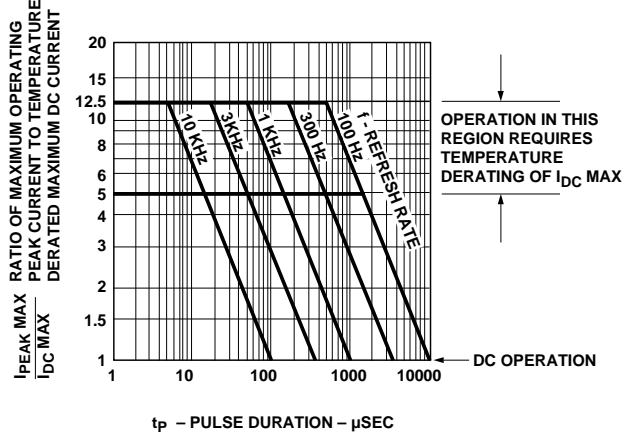

Figure 1. Maximum Tolerable Peak Current vs. Pulse Duration - Red.
1. See Figure 1 to establish pulsed operating conditions. Maximum pulse width is 1.5 ms.